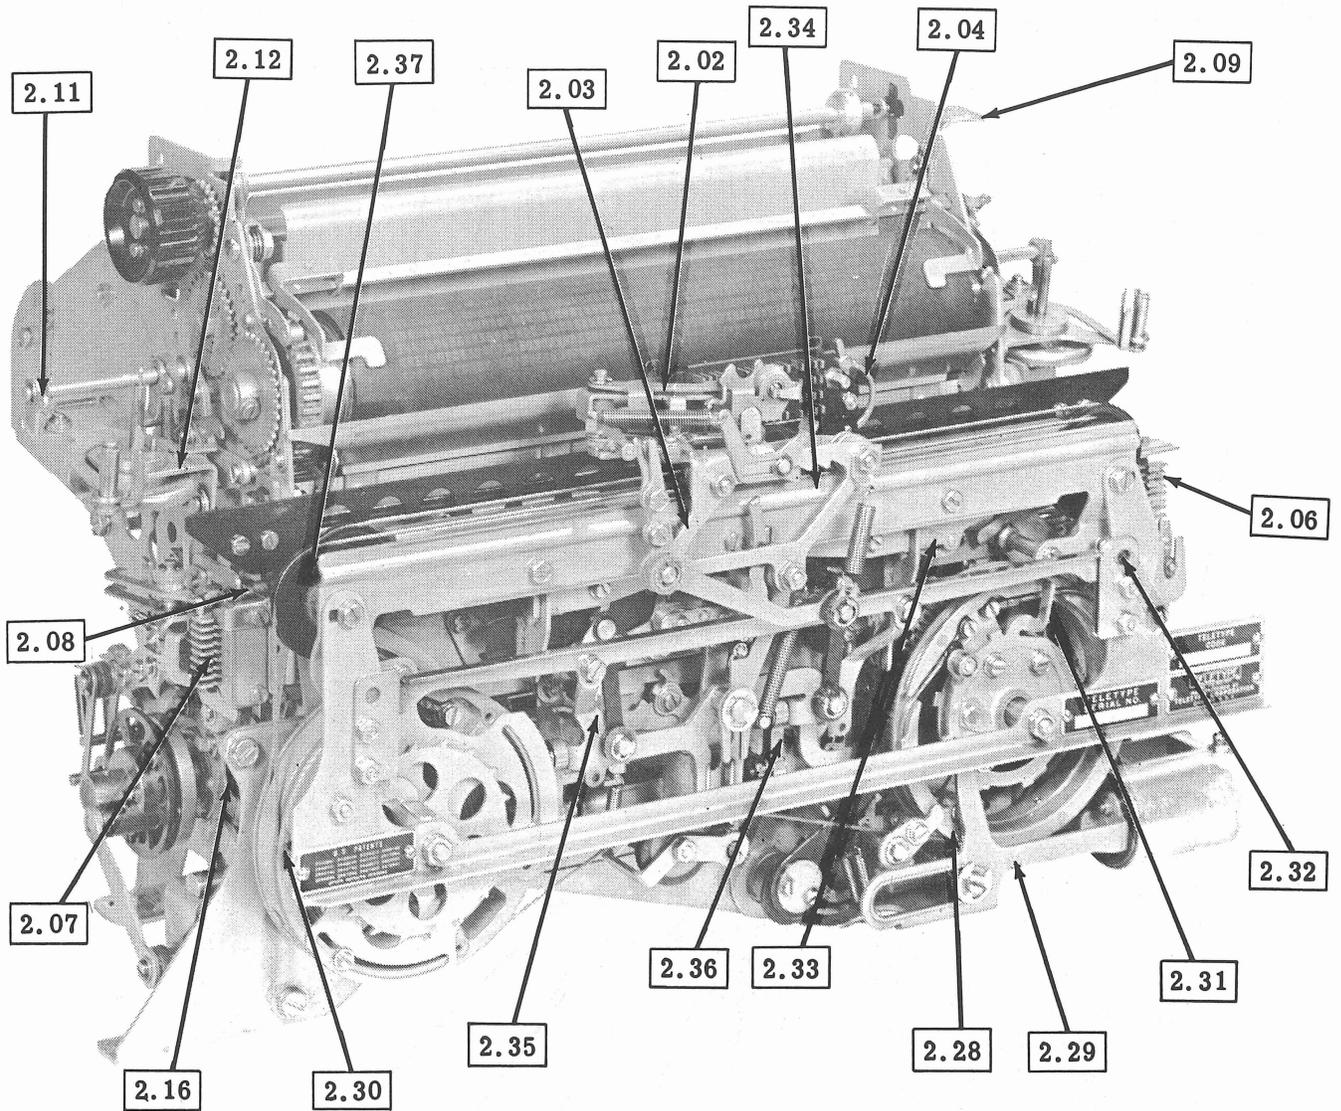

Figure 1 - 35 Typing Unit, Friction Feed (Left Front View)
1.02 Lubricate the 35 typing unit as directed in this section. The line drawings indicate points to be lubricated and the type and quantity of lubricant to be used. Figures 1 and 2 illustrate the general areas of lubrication on the friction feed unit and Figure 3 shows the lubrication areas on the sprocket feed unit. Lubricate the typing unit prior to placing it in service. Relubricate after a few weeks to make sure that all points have received proper lubrication. Thereafter, lubricate the typing unit at intervals of 1500 hours or six months, whichever occurs first.